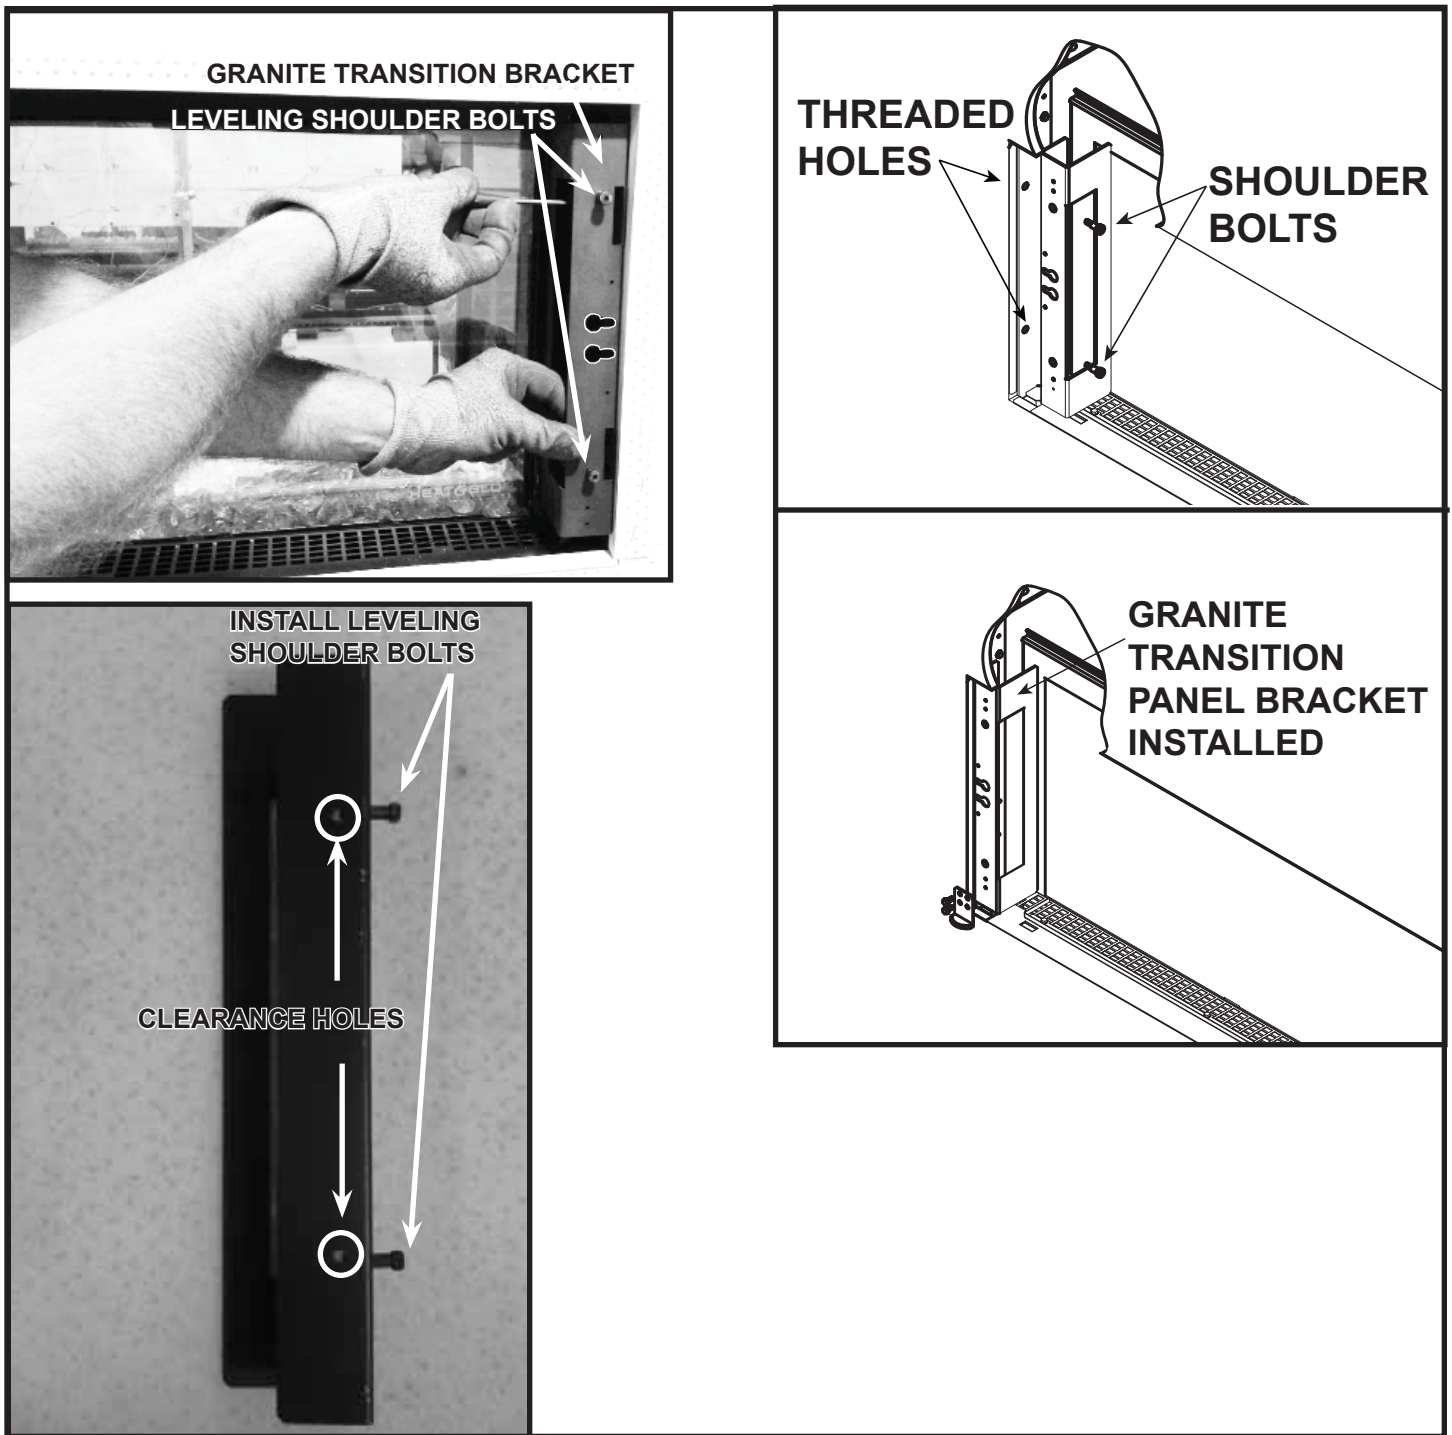

Figure 10.24. Install Granite Transition Brackets
1. Install leveling shoulder bolts to the granite transition brackets. See Figure 10.24. The bolts can be used to level the side granite pieces.
2. Install granite transition bracket on left and right sides of appliance opening as shown in Figure 10.24. Attach brackets with the two shoulder bolts and tighten.